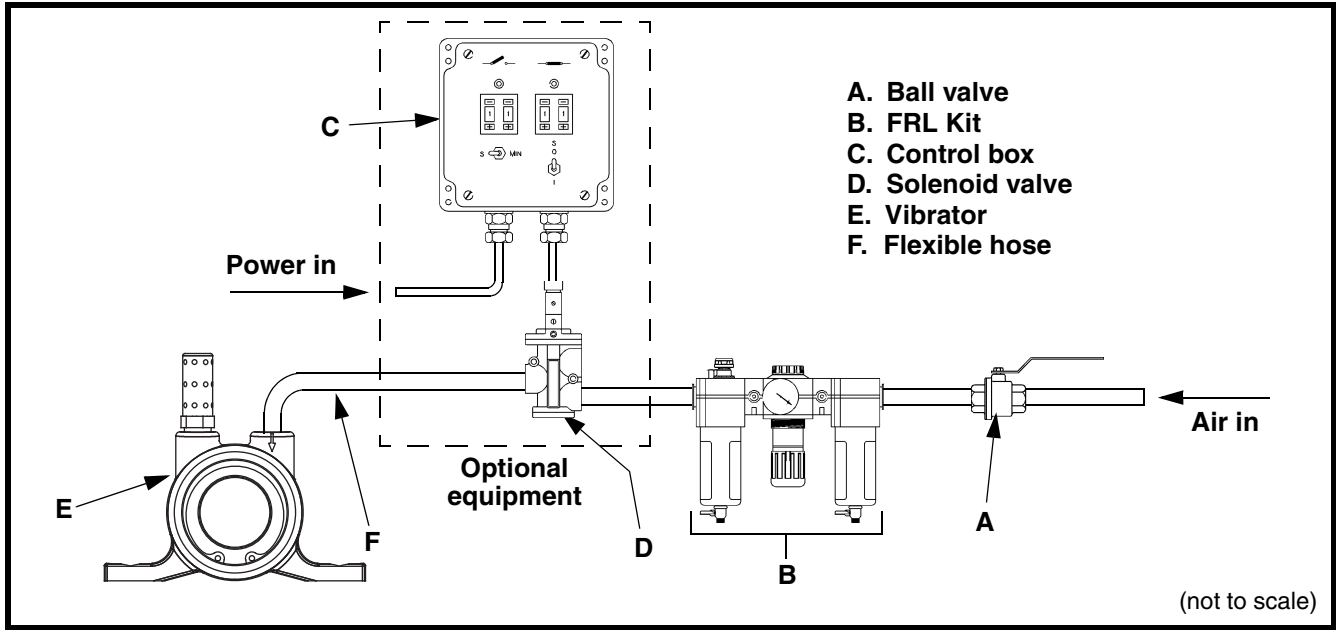

Figure 3. Connecting Air Lines to Vibrator
- a. See Figure 3. Connect air line to ball valve (A) and Filter/Regulator/Lubricator (FRL) Kit (B).